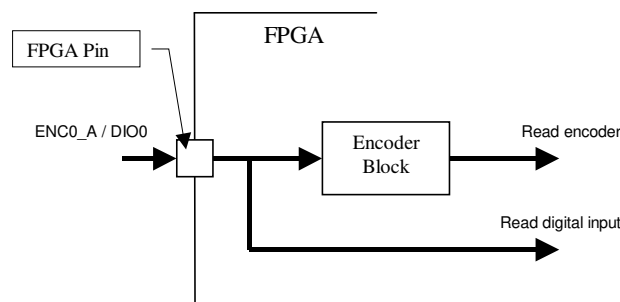
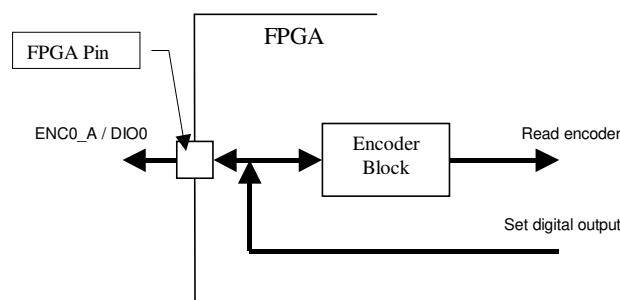

Fig.2.2. The shared FPGA pin configured as the input
Fig. 2.3. The shared FPGA pin configured as the output
- the second kind of the specialized blocks contains only the digital input signals (the incremental encoders). In this case it is not necessary to select the operating mode of the block signals. If the appropriate general purpose I/O signals are configured to be the inputs then their states can be read by the software and simultaneously the signals excites the specialized block (see Fig.2.2). If the shared general purpose I/O signals are configured to be outputs their states can be set by the software and simultaneously the signals excites the specialized block (see Fig.2.3). This operating mode can be applied for testing of the specialized blocks – for example the encoder can be excited and read in a software manner. This testing strategy is not significant during common device applications. It may be very useful when a user wants to design and test his own FPGA blocks (see “*RT-DAC/Zynq Device XILINX Programming Guide*”)